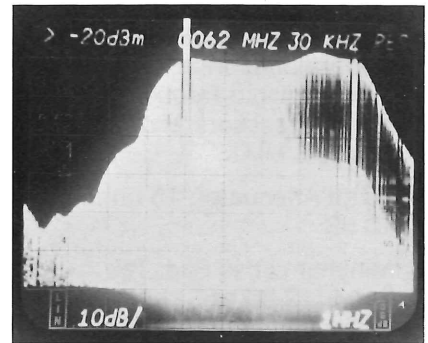

Figure 6-4. Swept modulator response.
4. Switch the mainframe to high persistence or storage. Sweep (or manually rock) the generator's output frequency over its 100 kHz to 5 MHz range. A picture of the modulator's response will be developed on the display screen (figure 6-4).